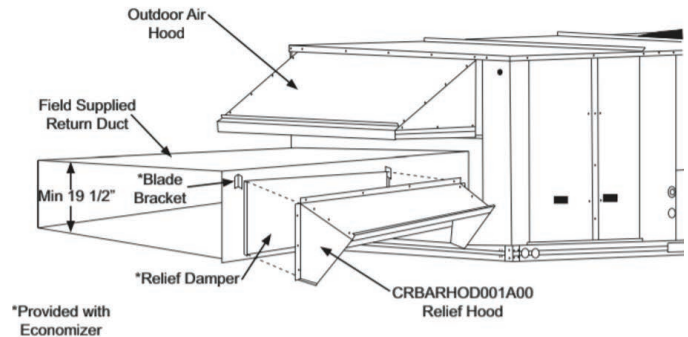

**Fig. 31 — Relief Damper**
1. Install the field provided horizontal ductwork onto the unit. Duct height must be at least 19-1/2 in. high, however the duct can be no taller than the top of the relief opening in the bottom panel, or airflow into the outside air hood will be restricted. See Fig. 31.
2. Cut a 16 in. x 36 in. opening in the return duct for the relief damper (see Fig. 31).